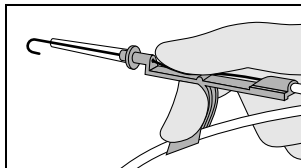

Fig. 1
1. Using your thumb, straighten the "J" by retracting spring-wire guide into Arrow Advancer™ (refer to Figs. 1, 2).